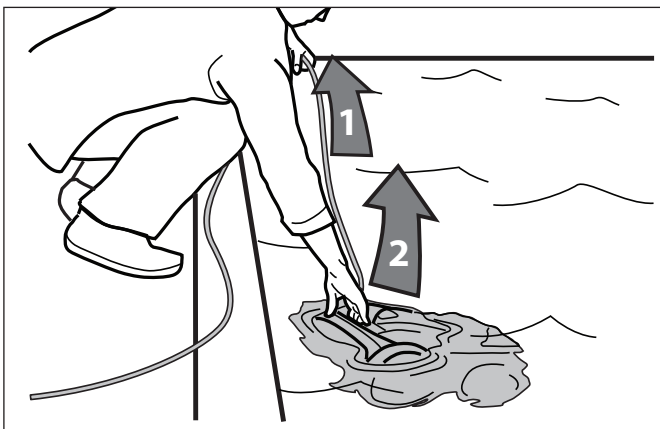

Figure 17. Remove Cleaner From Pool wth Handle
2. When the cleaner is within arm's reach, use the handle to remove from the water (Figures 17, 18). Never lift the cleaner out of the pool by the floating cable.